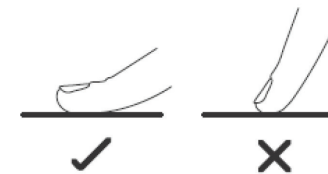

Fig. 4
- Use the entire fingertip, not just the tip, to operate the touch buttons (Fig. 4).